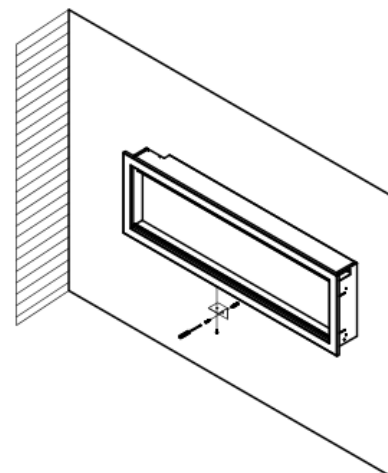

Fig. 4
6. To prevent fireplace from moving, use the provided safety screw to fasten the fireplace to the wall. See (Figure 4).